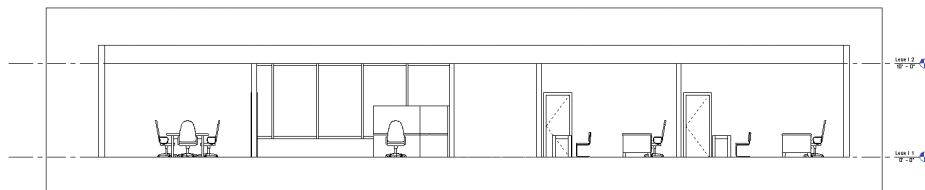

FIGURE 8.18 Resulting building section
3. Press the Esc key to deselect the section you just created. Double-click the section head to open the new view. Figure 8.18 illustrates the new building section. Although all the geometry is shown correctly, it would certainly help to tag the spaces with their room names.